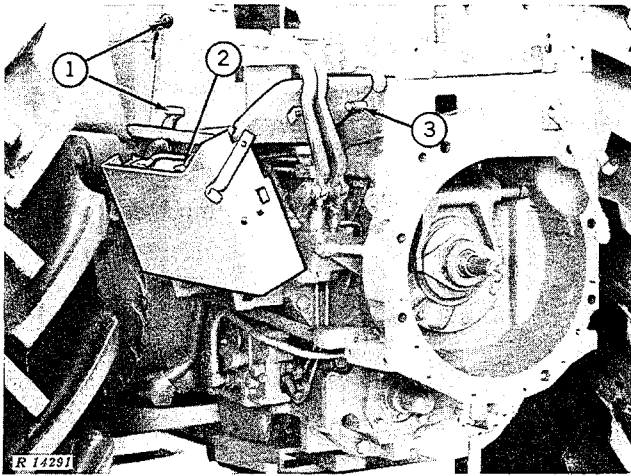

Fig. 7 - Rear Portion of Tractor
1. Remove differential lock pedal (Fig. 7). Do not remove differential lock return valve. Remove rockshaft selector lever knob.
2. Remove batteries (Figs. 7 and 8).